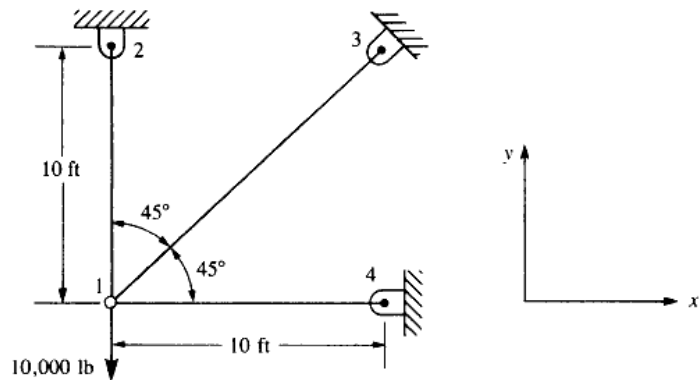

Figure 4
- (b) For the plane truss composed of the three elements shown in Figure 4 subjected to a downward force of 10,000 lb applied at node 1, determine the x and y displacements at node 1. Let $E = 30 \times 10^6$ psi and $A = 2 \text{ in.}^2$ for all elements. The lengths of the elements are shown in the Figure 4. 07